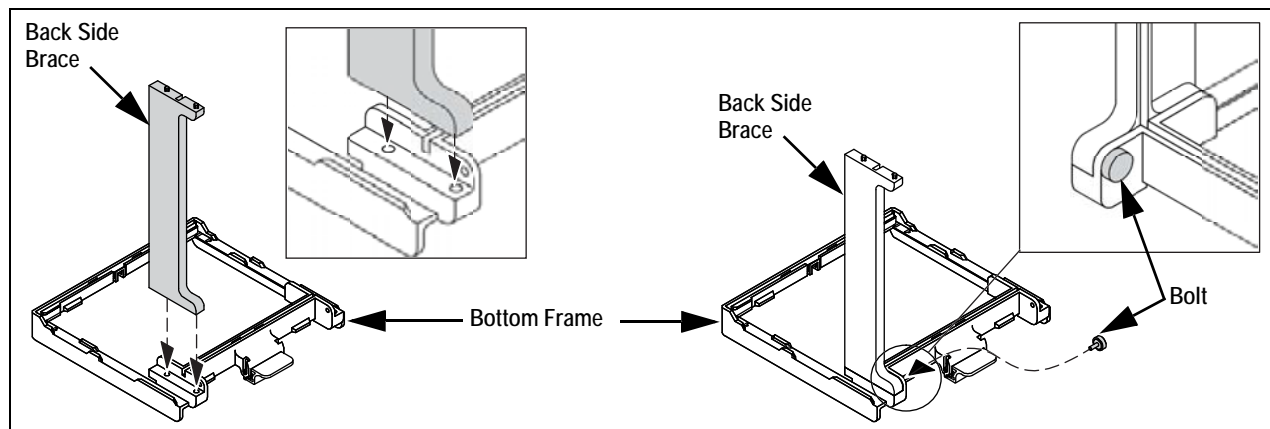

Figure 2-8. Install Rear Side Braces
2. Insert one of the back side braces into the bottom frame as shown in Figure 2-8. Ensure the flat side is toward the outside.